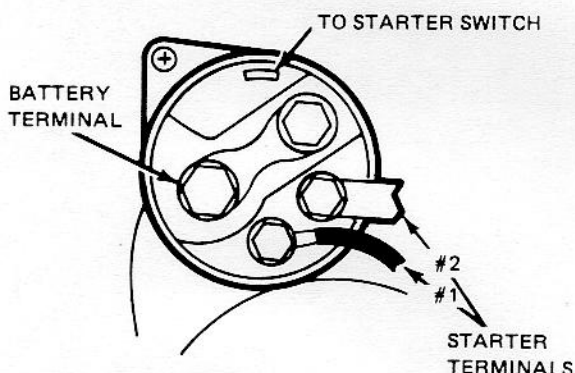
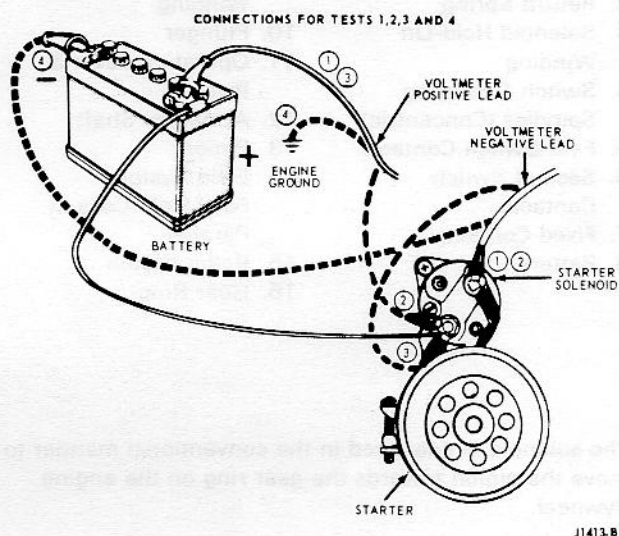

Fig. 5 - Lucas Starter Solenoid
Fig. 6 - Starter Cranking Circuit Test - Typical
These tests will determine whether or not there is excessive resistance in the cranking circuit. Make each test connection as shown in Fig. 6. While cranking the engine, observe the voltage drop reading for each test. **Connect a remote control switch between the battery terminal of the starter relay and the S terminal of the relay.**
1. 0.5 volt with the voltmeter negative lead connected to the starter terminal and the positive lead connected to the battery positive terminal (Fig. 6, connection 1). On Lucas starters, perform this test on both starter terminals (Fig. 5).
2. 0.3 volt with the voltmeter negative lead connected to the starter terminal and the positive lead connected to the battery terminal of the starter solenoid (Fig. 6, connection 2). On Lucas starters, perform this test on both starter terminals (Fig. 5).
3. 0.2 volt with the voltmeter negative lead connected to the battery terminal of the starter solenoid and the positive lead connected to the positive terminal of the battery (Fig. 6, connection 3).
4. 0.1 volt with the voltmeter negative lead connected to the negative terminal of the battery and the positive lead connected to the engine ground (Fig. 6, connection 4).